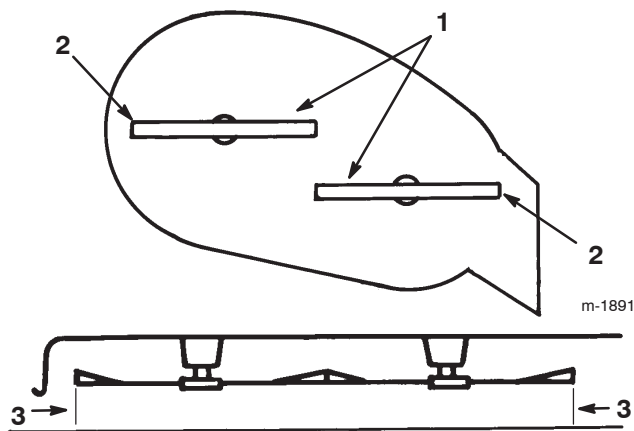

Figure 46
5. Carefully rotate the blades side to side (Fig. 46). Measure between the outside cutting edges and the flat surface (Fig. 46). If both measurements are not within 3/16 in. (5 mm), an adjustment is required; refer to steps 6 and 7.